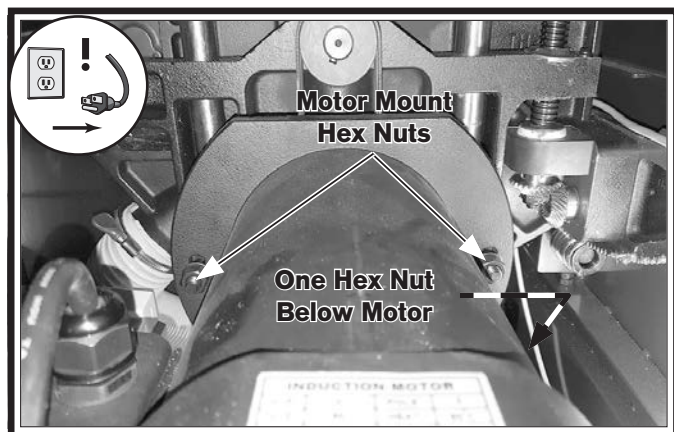
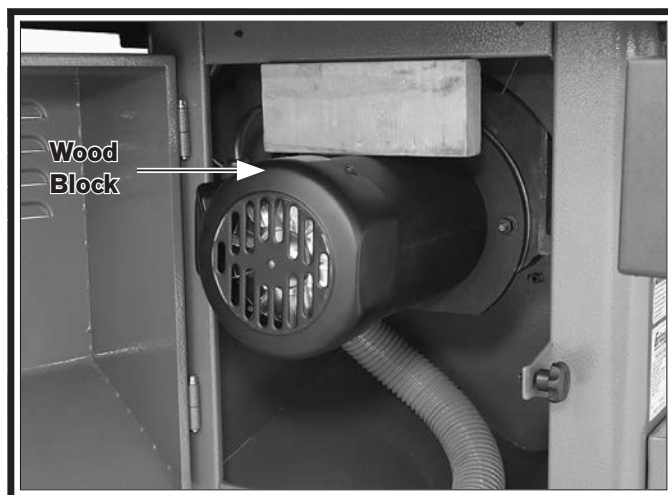

Figure 144. Motor mount hex nuts.
Figure 145. Example of using wood block to tension belt.
3. Loosen (3) motor mount hex nuts shown in **Figure 144** two turns, then place 4x4 wood block on top of motor, as shown in **Figure 145**.
3. Loosen (3) motor mount hex nuts shown in **Figure 144**, two turns and place a 2x6 block between cabinet and bottom of motor, as shown in **Figure 147**.